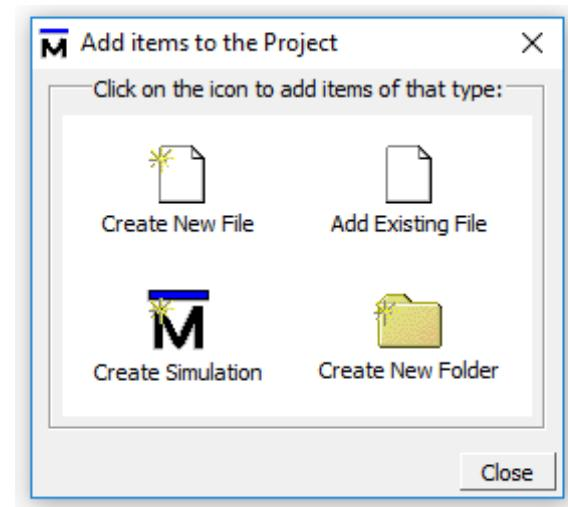
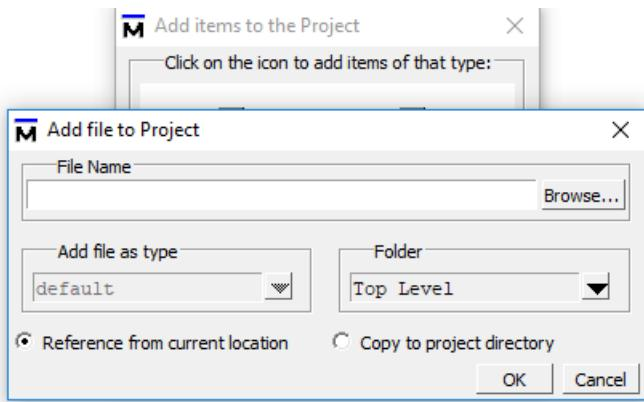
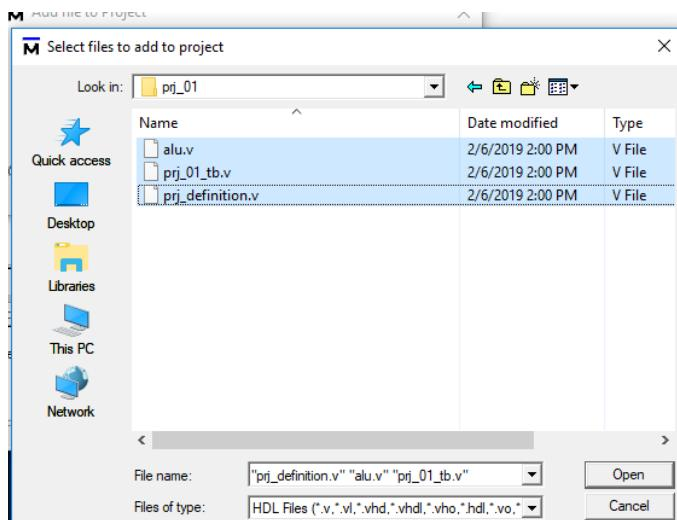

Figure 2.3: Add items to the project
Figure 2.4: Add file to project
Figure 2.5: Select files to add to project
- 3) A window will show after the last step as shown in Figure 2.3. Click on 'Add Existing File'. Click on 'Browse' (Figure 2.4) then go to the folder where the file from step 1 was downloaded and select all 3 V files (Figure 2.5).